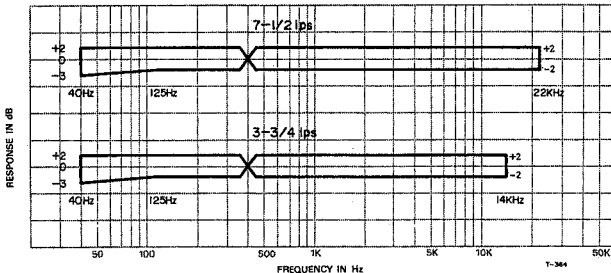

Fig. 9-6 Frequency Response - Playback -
3. Compare the readings obtained on the Test-Set (VTVM) with the Response Limits given in Fig. 9-6.